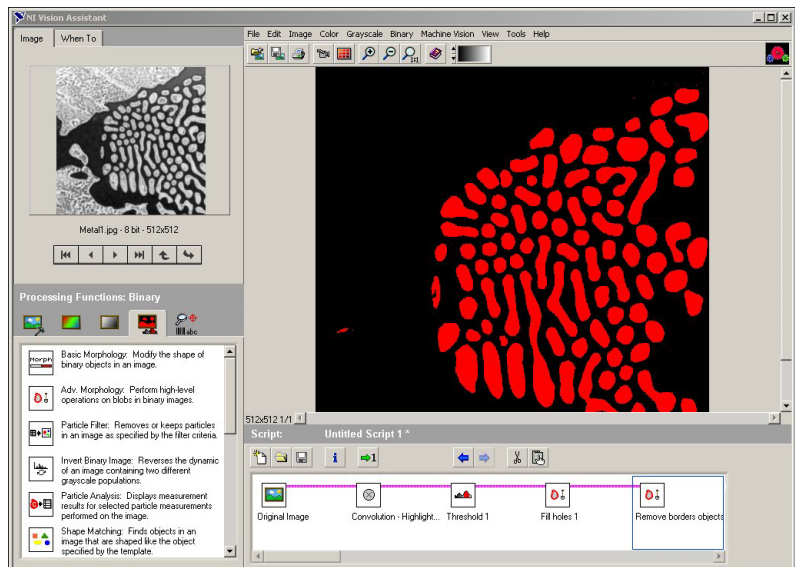

Figure 3-4. Modifying Blobs with Morphological Functions
5. Select **Remove border objects** to remove any objects that touch the border of the image, as shown in Figure 3-4.